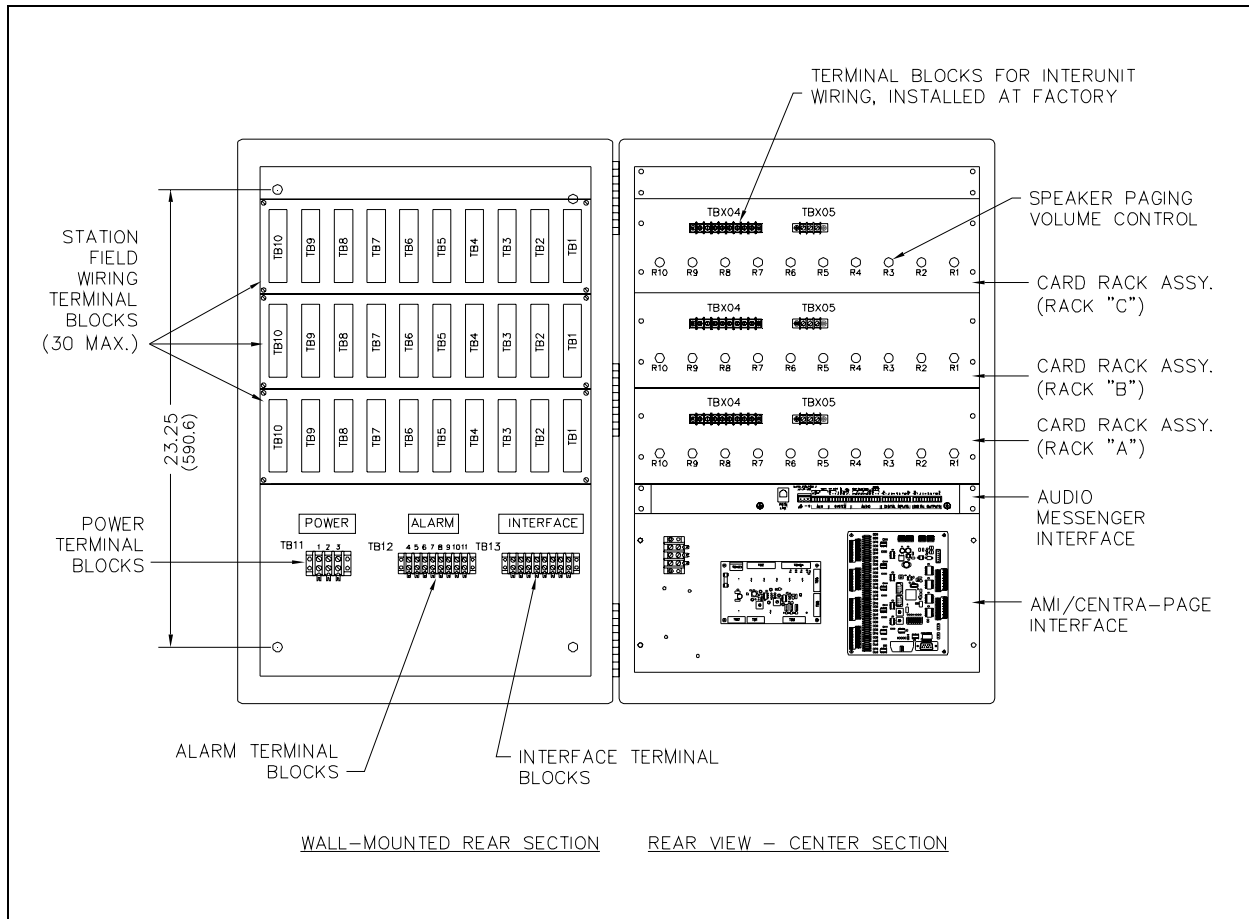

Figure 3. Centra-Page Central Cabinet
17. All field wiring is brought into the terminal blocks on the cabinet back panel. After the field wiring is connected, apply 24 V dc to TB11 on the central cabinet's rear panel. Refer to Figure 3.